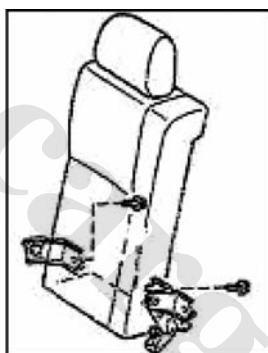

Fig. 7-12
- ① Open the front part of the rear seat back cover.
- ② Incline the seat back assembly.
- ③ Remove the two bolts and the seat back.
- (4) Remove the right rear seat side back assembly, as shown in Fig. 7-12.